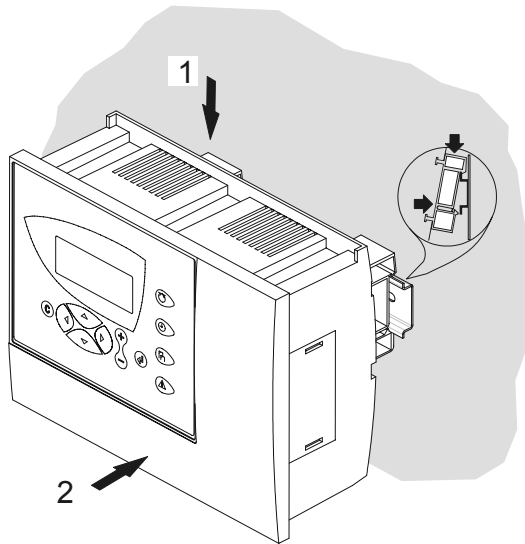

Fig. 15. Inside cabinet mounting (models with MMI) (b)
7. Mount the controller on the DIN rail (Fig. 15).